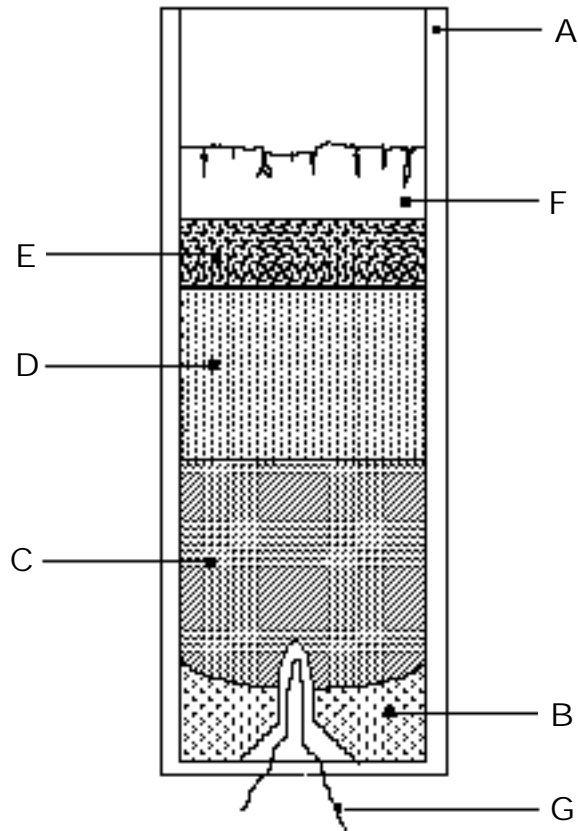

Figure 6. Enlarged Rocket Engine
The rocket engines you will use are manufactured by machines. An engine is taken from the assembly line regularly and tested to see that it meets company specifications and federal regulations. See Figure 6.
All model rockets are fired electrically for safety reasons. (This also keeps them out of the fireworks category.) An IGNITER WIRE (G) is used and is placed into the cavity of the propellant charge as illustrated in Figure 6. (The different parts of the rocket engine illustrated can be labeled and colored with pencils.)